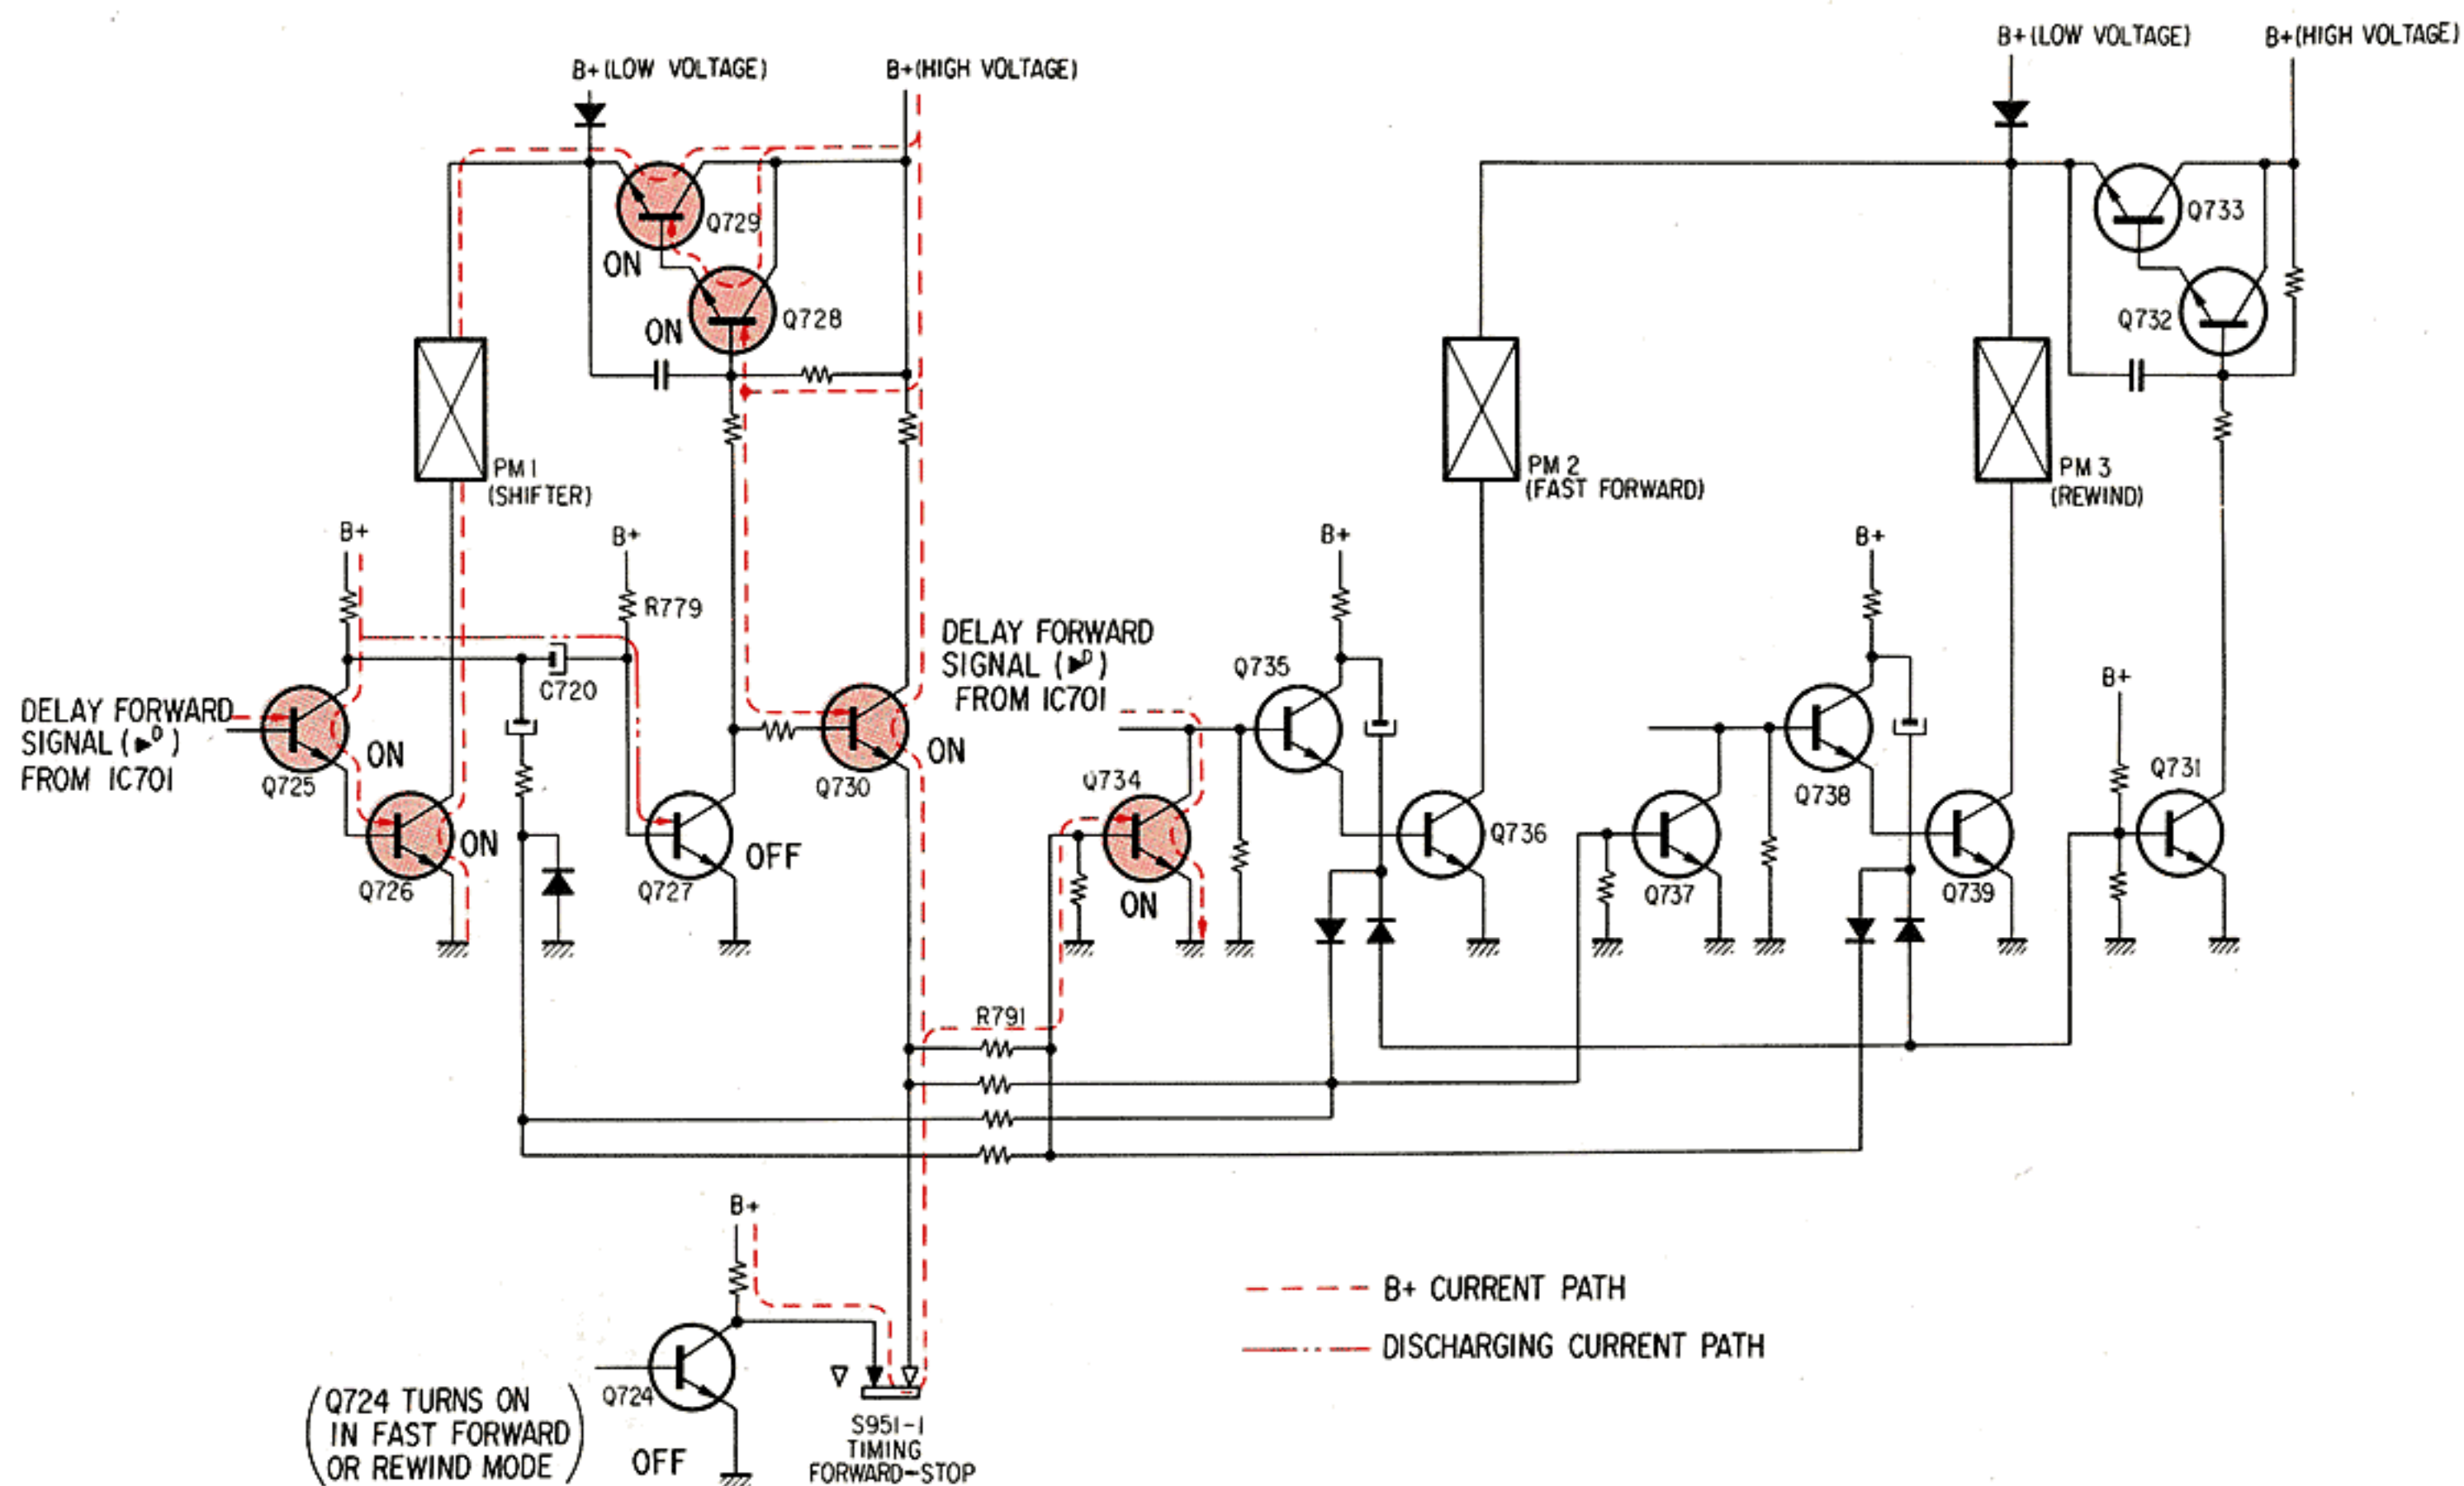

Fig. 1-2 Forward Button Pushed ON
1. STOP mode → forward mode (energized PM1 and PM2) (See Figs. 1-2 and 1-3)